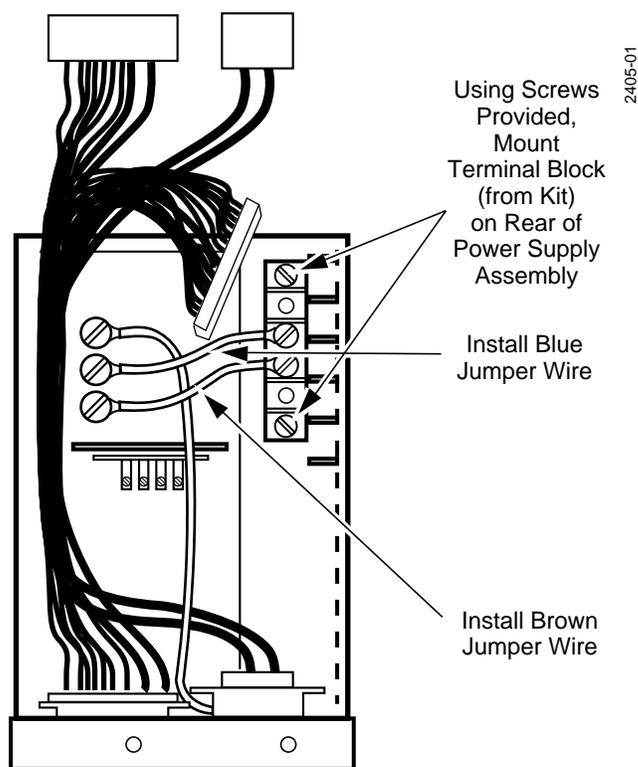

Figure 4-3. Installation of Terminal Block and Jumpers
1. Before installing the new power supply unit in the frame, mount the terminal block (provided in the Field Modification kit) on the rear of the Todd Multi-Output power assembly, as shown in Figure 4-3. The terminal block has four terminals, but only two will be used. Remove and discard the four tab connectors from the terminal block, but keep two of the screws for the next step.
2. At the terminal block you just installed on the Todd power unit, connect the blue and brown AC power wires you previously disconnected from the Pioneer supply, as shown in Figure 4-3. Connect the blue wire coming out of the frame to the terminal with the blue jumper wire; connect the brown wire coming out of the frame to the terminal with the brown jumper wire.